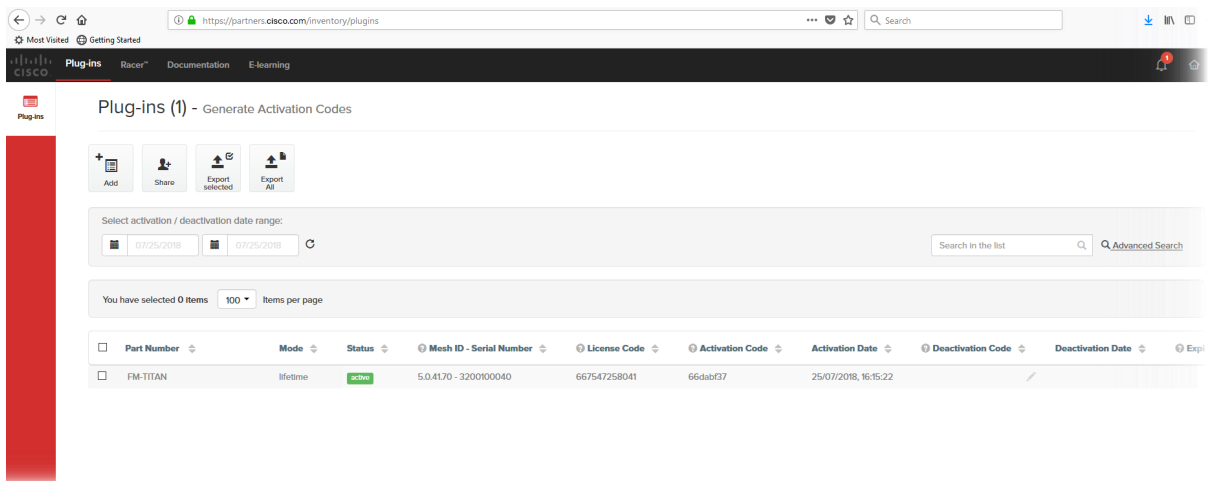

Figure 69. Partner Portal Plug-ins page (License code deactivation)
- The Plug-ins web page will be shown (Figure 69 \(page 149\)).